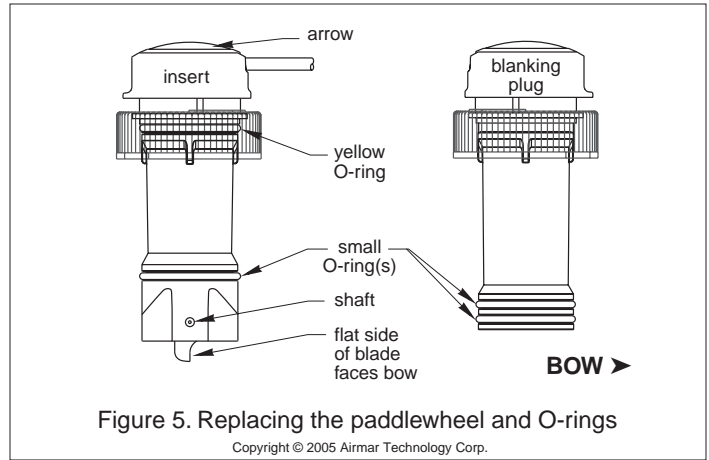

Figure 5. Replacing the paddlewheel and O-rings
- On the blanking plug, inspect the O-rings (replace if necessary) and lubricate them with the silicone lubricant supplied or petroleum jelly (Vaseline®) (see Figure 5).
- To remove the old paddlewheel shaft, grasp the end with small diagonal wire cutters and pull (see Figure 5).